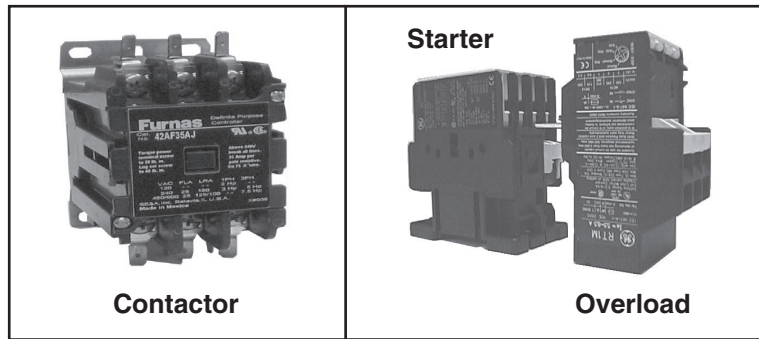

Figure 9. Replacement Motor Contactor, Starter, and Overload
- The motor contactor (see Figure 9, PN 119625, manufacturer's model #42AF35AJ-24V) is located in the high-voltage electrical compartment (see Figure 1 and Figure 2 for location). The replacement motor contactor is option AN2.
- Replacement motor starters and their overloads (see Figure 9) are available in option AN10. The motor starter is located in the high voltage electrical compartment (see Figure 1 and Figure 2 for location).